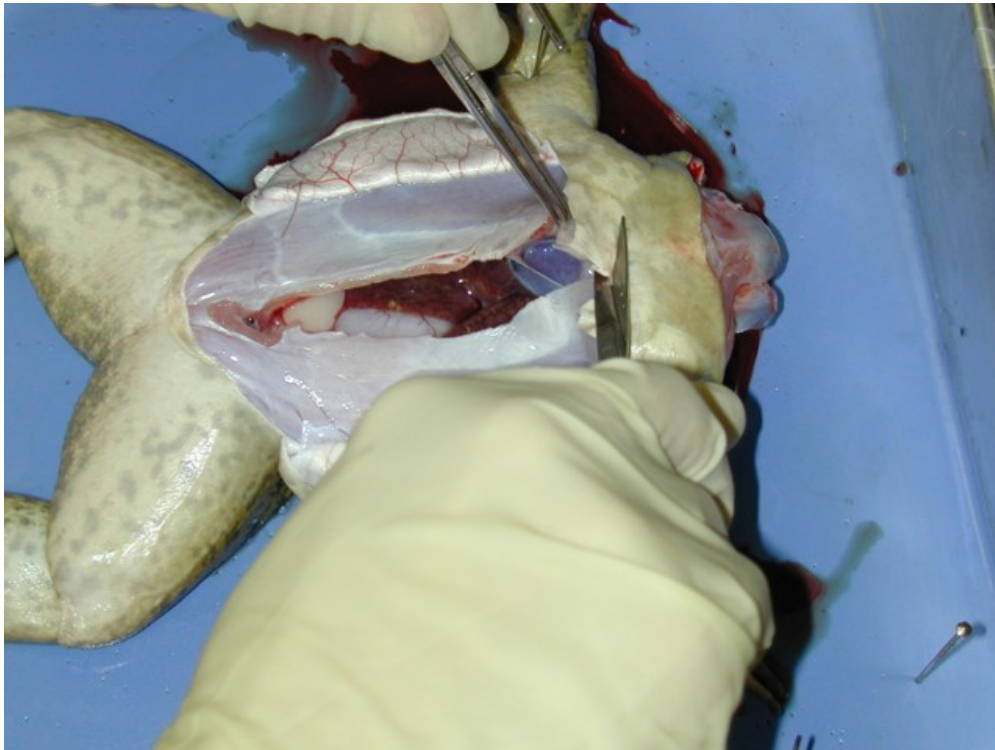

Figure 3: Dissection of the frog showing the open skin flaps, the removal of the sternum and, underneath, the exposed heart inside the pericardial sack.
2. To expose the heart, make sure to remove the lower and middle sections of the rib cage as they will interfere with the transducer you will use to measure contraction. The heart of the bullfrog is quite large and red and should be slowly beating. Figure 3 shows the process of removing the ribs and sternum and the exposed heart below. If the frog is still cold, the rate may be very slow so run some Ringer's solution over the heart to help it warm up. Observe the atria and single ventricle of the heart and note the sequence of contraction of each.